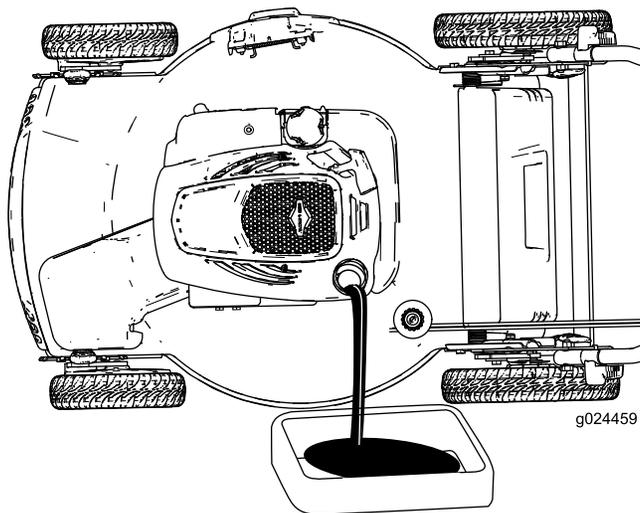
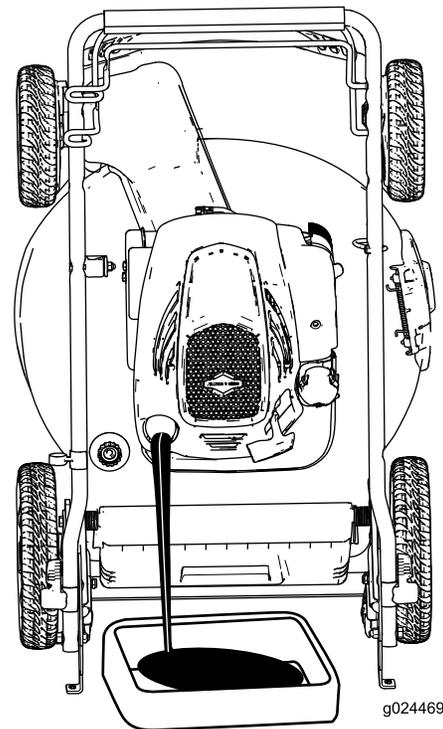

Figure 24
Figure 25
4. Tip the machine onto its side with the dipstick down (Figure 24) or set the machine in the vertical-stow position (Figure 25; refer to Storing the Machine in the Vertical-Stow Position (page 12)) to drain the used oil out through the oil-fill tube.